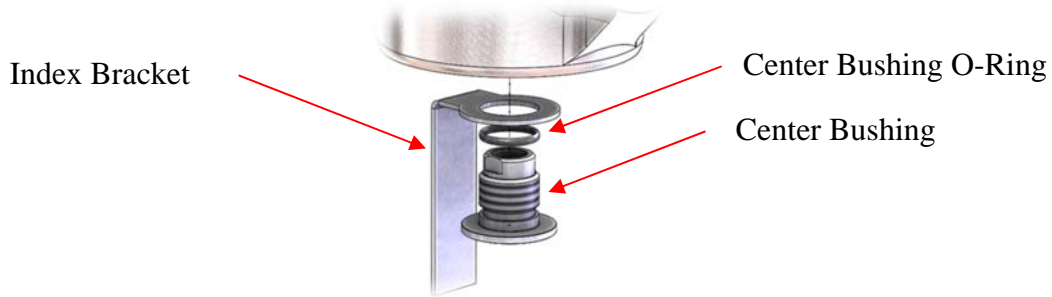

Figure 23: 2" Body Index Bracket
17. Remove and set aside the index bracket. See Figure 23. Be careful not to bend the index bracket.
18. Remove the center bushing o-ring. See Figure 23.